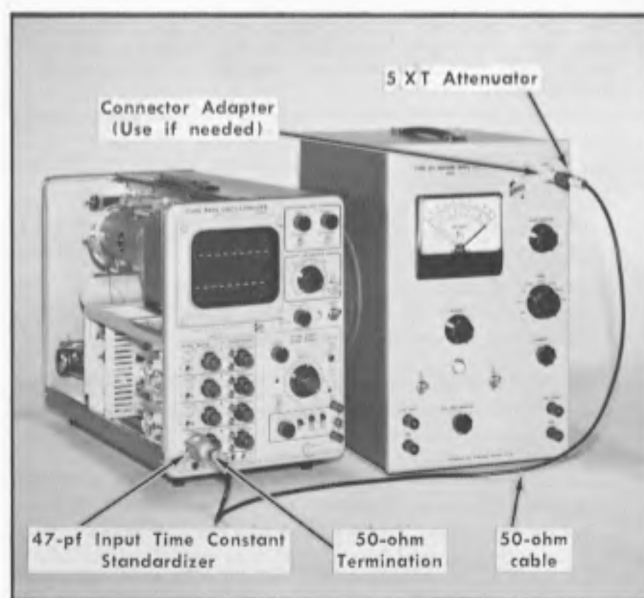

Fig. 6-5. The manner in which the Type 105 Square-Wave Generator should be connected to the Type 3A74 when preparing to adjust C416 (step 13f) in channel 4.
- d. Connect the other end of the standardizer to the channel 4 Input connector. Fig. 6-5 shows the entire setup.
After completing the channel 4 adjustments, decrease the Type 105 output signal level to minimum and apply the signal to channel 3. (Use the same setup as shown in Fig. 6-5
- d. Connect the plug-end of the termination to the channel 1 Input connector. (This setup is similar to Fig. 6-5 except the 47-pf Input Time Constant Standardizer is not used.)